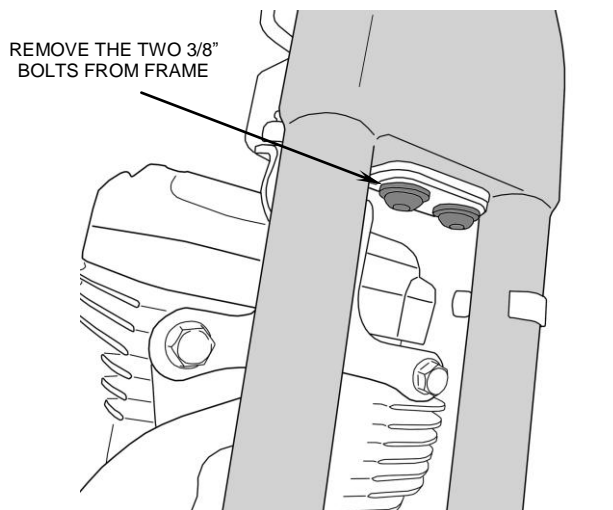

FIGURE 1
2. Remove and retain the (2) 3/8-16 x 1.50" torx motor mounting bolts and washers securing the upper portion of the engine front cylinder to the frame mount. See Figure 1.